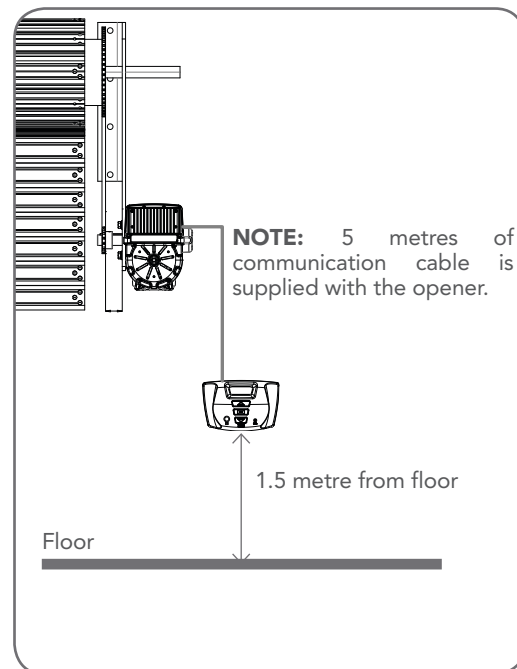

Fig 7.1
- Affix the logic or manual console at a height of 1.5 metres within sight of the shutter. Make sure that the position of the logic or manual console is out of reach of children and convenient to the customer (**Fig. 7.1**).
- Connect the communication cable ② from the opener to the logic or manual console unit.